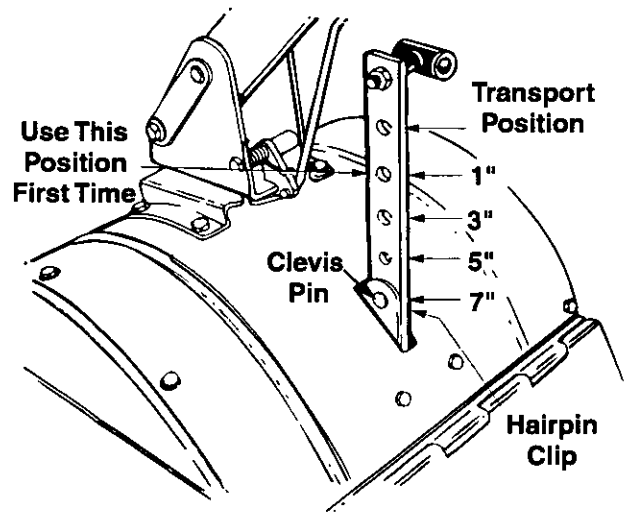
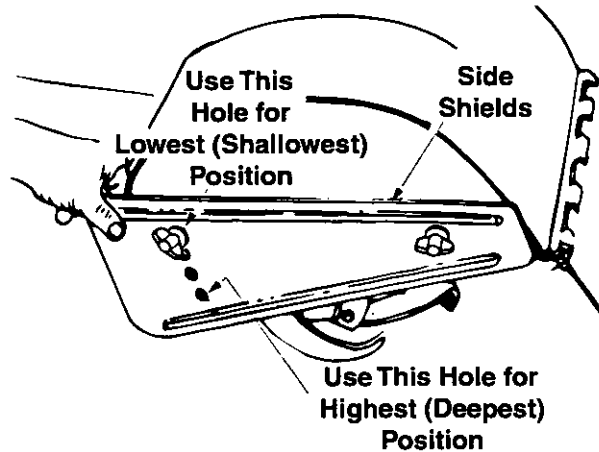

Figure 17
Figure 18
**WARNING:** When operating the tiller for the first time, use the depth stake setting that gives 1 inch of tilling depth (second hole from the top). See Figure 17.
Tilling depth is controlled by the depth stake which can be adjusted to five different settings. See Figure 17. Adjust the side shields as shown in Figure 18, as you adjust the depth stake. Be certain spark plug wire is disconnected and grounded against the engine.
1. When using the tiller for the first time, use the second adjustment hole from the top (1" of tilling depth). See Figure 17.
To adjust the depth stake, remove the clevis pin and hairpin clip. See Figure 17. Move the depth stake to the desired setting.
To adjust the side shields, remove the wing nuts. See Figure 18. Place side shield in position desired. Replace wing nuts and tighten securely.